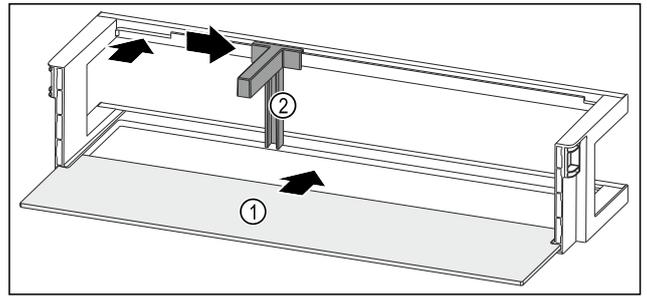

Fig. 94 Door rack with shelf
- ▶ Push the shelf Fig. 94 (1) into the side recesses.
- ▶ Insert the bottle holder Fig. 94 (2) in the recess.
- ▶ Push the bottle holder Fig. 94 (2) to the desired position to the side.